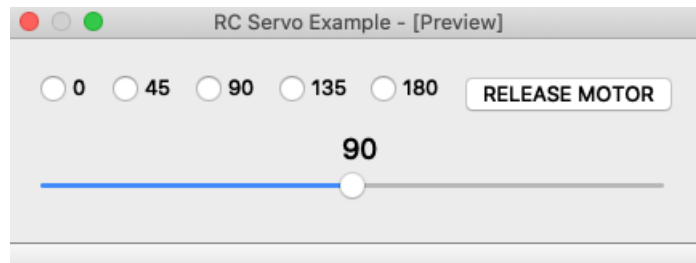

Figure 4. RC servo control computer user interface at runtime
**5.** Implement a Python Program that acts like the screenshot illustrated in figure 4. You can use one scrollbar or a slider (the range of which has to be [0-180], to do this, play with the min,max properties of this control), one label, 5 radio buttons and arrange the form as shown. You will need to catch any change in scroll bar / slider state by monitoring proper events and: 1) update the label on top of the scroll bar / slider 2) turn the servo motor to indicated position. The radio buttons on the other hand, provide preset positions as indicated. By either using the slider or the radio buttons the user should be able to control the RC servo position. If you press the 'RELEASE MOTOR' button, the motor should become free, i.e. you should be able to turn it by hand.